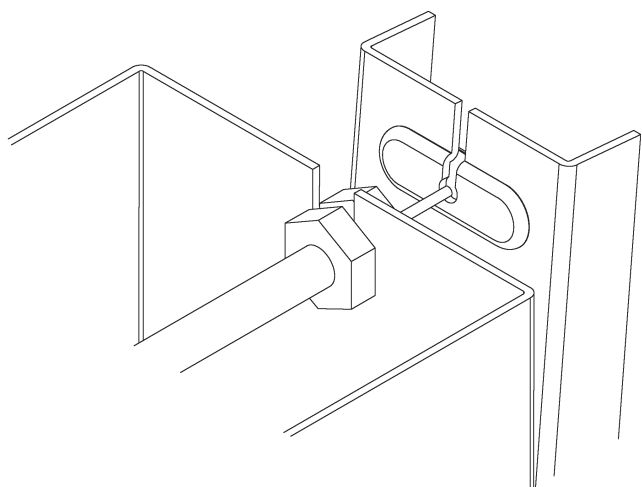

FIG. 6
1. Assemble the operating cable to the fountain bracket. (Fountain should be mounted to exterior wall) Create a loop in the cable and thread the free end of the cable through the wall into the freeze resistant box. The adjustment nuts should be in the middle of threaded area on the operating cable. See Figure 6.
See Fig. 6